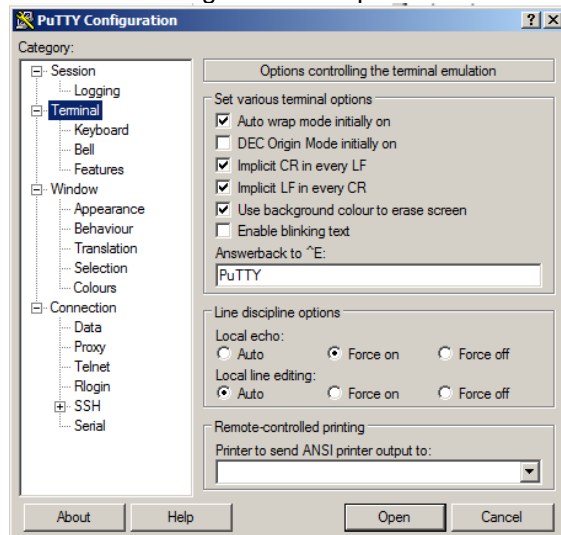

Fig. 3. Putty "Terminal" category configuration.
- Select: "auto wrap mode initially on", "implicit CR in every LF", "implicit LF in every CR", and "Local echo: Force On". See Fig. 3 for example.